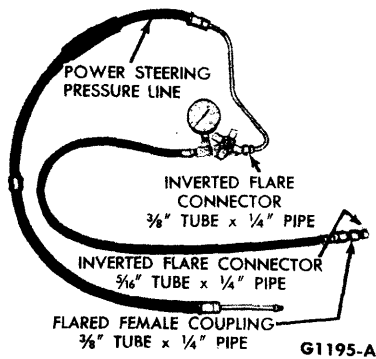

FIG. 1—Modified Pressure Gauge Assembly
- e. To modify tool 3500-E, remove the hose from the hand shut-off valve block. Install the $\frac{3}{8}$ inch x $\frac{1}{4}$ inch inverted flare connector in the valve block, and assemble the pressure line, CIVV-3A719-A (or subsequently released line) to the connector (Fig. 1). Assemble the $\frac{3}{8}$ x $\frac{1}{4}$ inch coupling and the $\frac{5}{16}$ -inch connector to the free end of the hose leading to the pressure gauge.